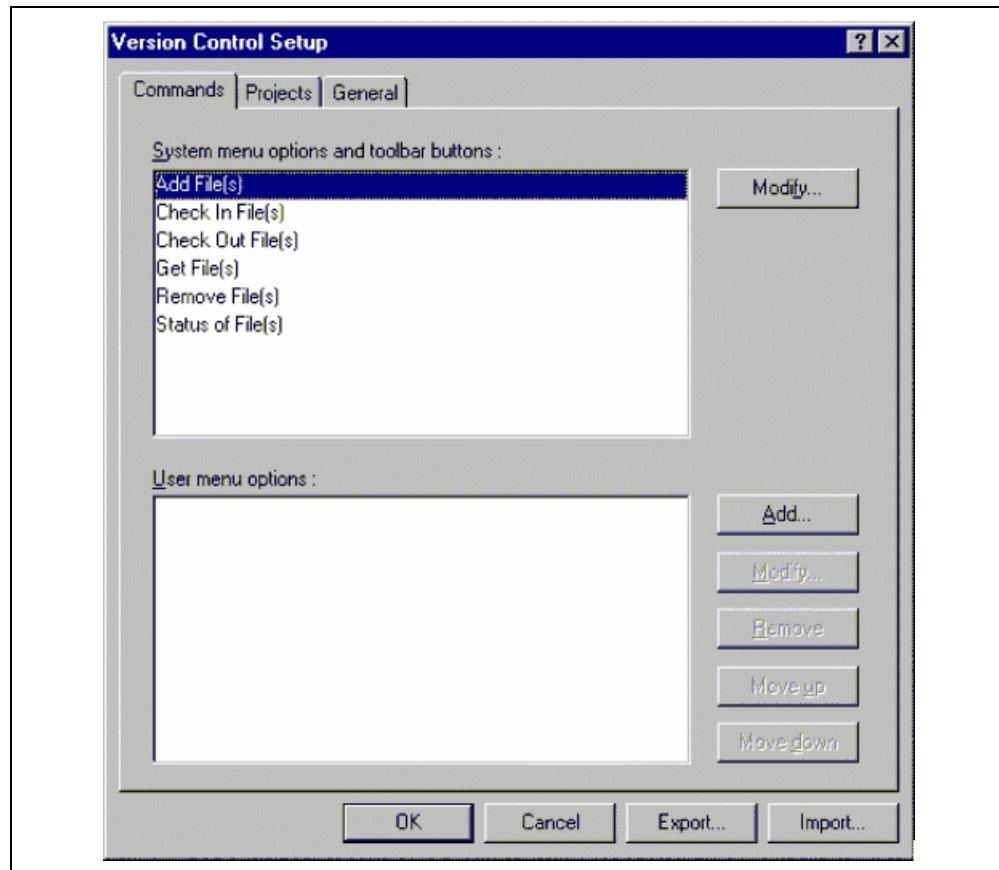
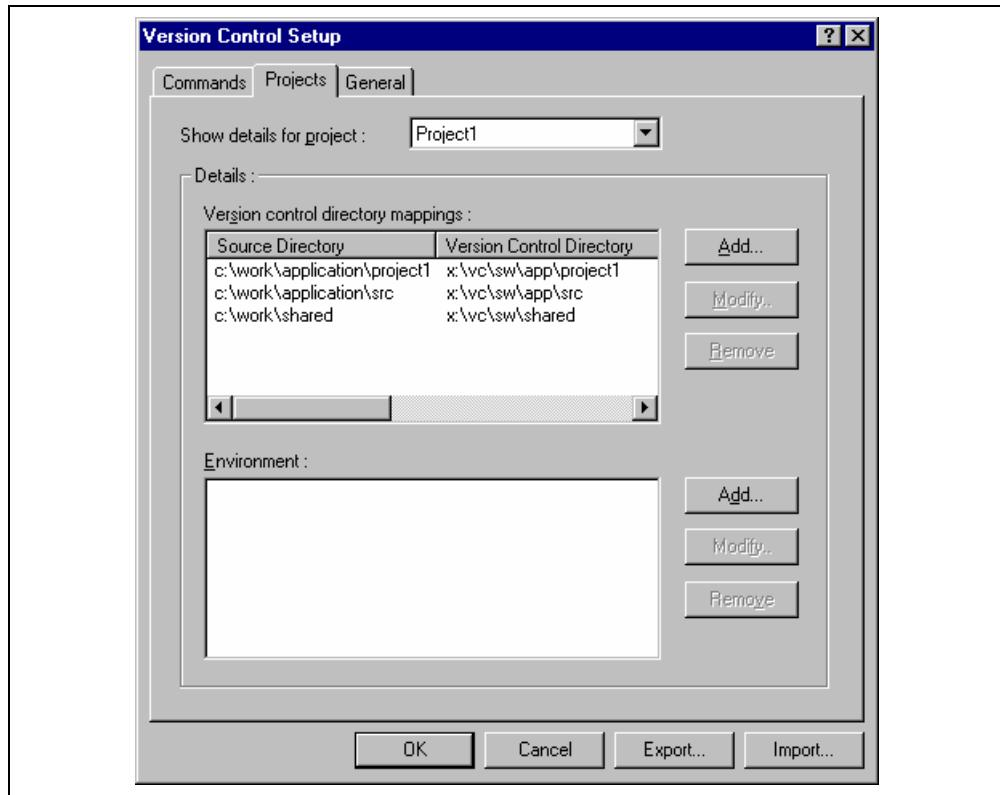

Figure 8.1: Version Control Setup Dialog Commands Tab
Figure 8.7: Version Control Setup Dialog Projects Tab
The custom version control support allows you the most flexibility in specifying how a version control system is to be used. To configure it, select **[Version Control->Configure...]**. The “Version Control Setup” dialog will be displayed (figure 8.1).
1. Select [Version Control->Configure...]. The dialog shown in figure 8.1 will be displayed.
- Select **[Version Control->Configure...]**. The dialog shown in figure 8.1 will be displayed.
1. Select [**Version Control->Configure...**]. The dialog shown in figure 8.1 will be displayed.
However, when executed, this command can only ever get the file MAIN.C. To resolve this problem, HEW uses a system of placeholders and directory mappings. The latter tell the HEW which "working" directories (i.e. where source files are being worked on) map to which "controlled" directories (i.e. where the source files are stored in the version control system). Mappings between these two directory systems can be specified via the "Projects" tab of the "Version Control Setup" dialog (figure 8.7).
1. Select [Version Control->Configure...]. The dialog shown in figure 8.1 will be displayed. Select the “Projects” tab, and the dialog shown in figure 8.7 will be displayed.
1. Select [Version Control->Configure...]. The dialog shown in figure 8.1 will be displayed. Select the “Projects” tab, the dialog shown in figure 8.7 will be displayed.
Select the “Projects” tab of the “Version Control Setup” dialog to view the current settings (figure 8.7).